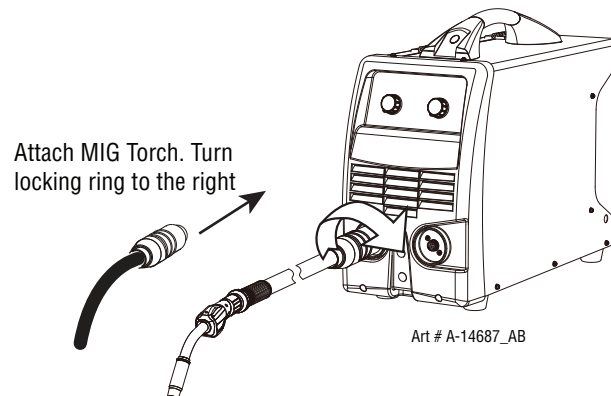

Figure 3-10: Mount MIG Torch Cable to Adapter Socket
1. Align the pins on the MIG Torch Cable with the pin holes of the MIG Torch receptacle on the front of the system. Press the MIG Torch in and secure by turning the locking ring to the right (clockwise). Refer to Figure 3-10.